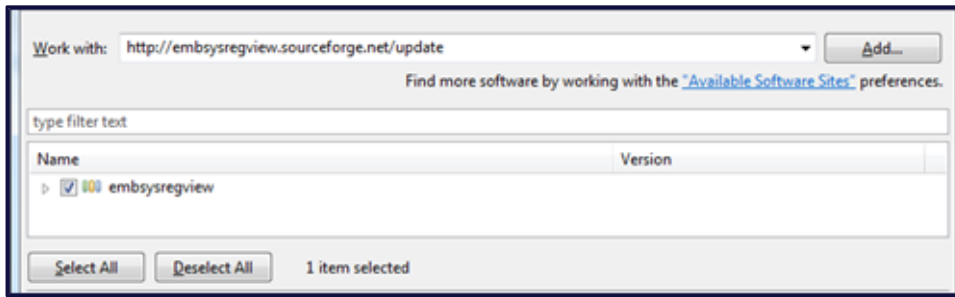

Figure 10: Installing embsysregview
3. Select and install **embsysregview** (Figure 10).